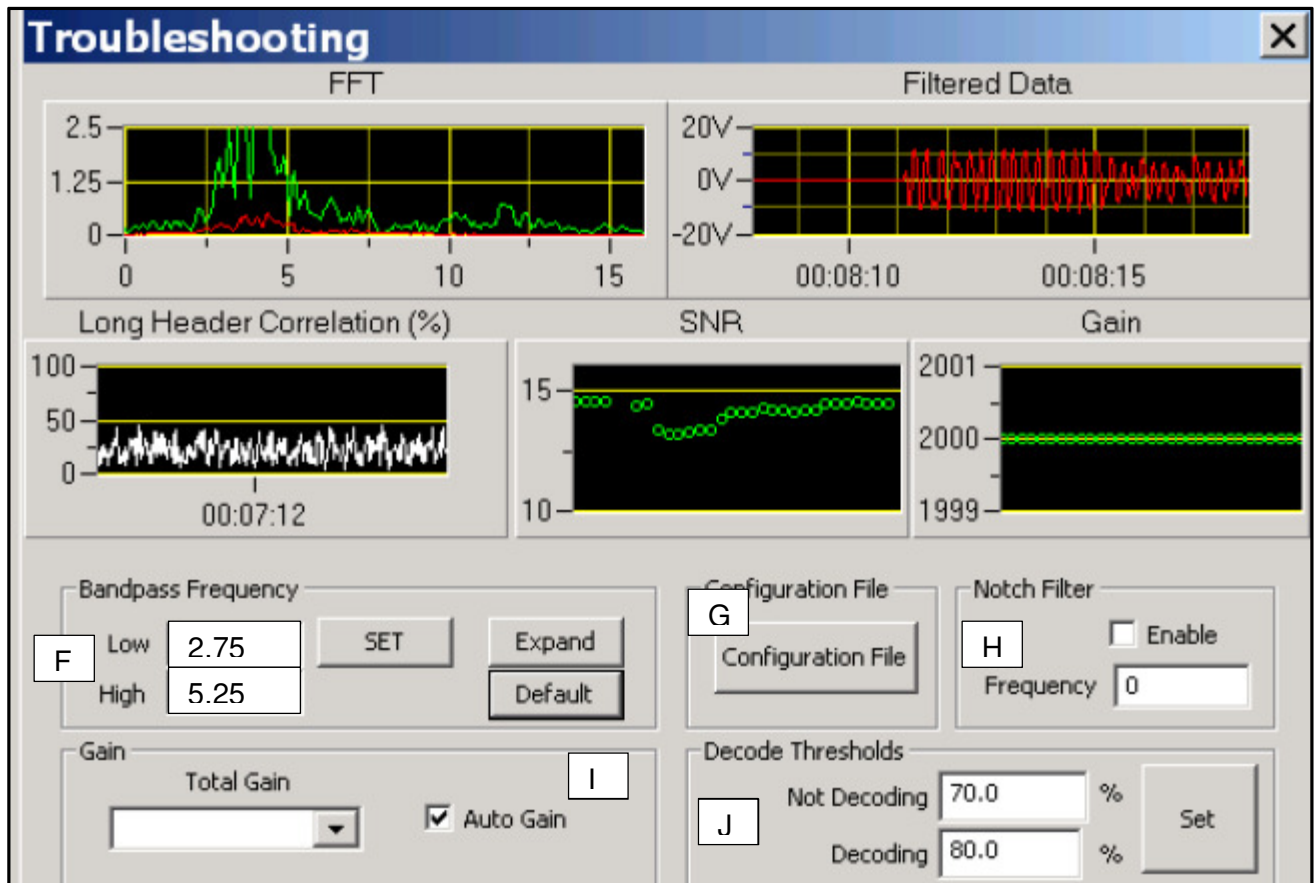

Figure 47 Trouble shooting Window (Repeat)
For Example, if the XEM Tool is operating at 4 Hz and 2 cycles per symbol, the symbol rate is 2 symbols per second as shown in Figure 47.
- **AUTO GAIN:** Leave the Auto Gain box checked; it is preferred to use Auto Gain allowing the Receiver to calculate the Gain automatically. The Output signal is automatically adjusted such that it has amplitude of 3V. The Auto Gain computed by the XEM Rx is 2000 in the Figure 47.